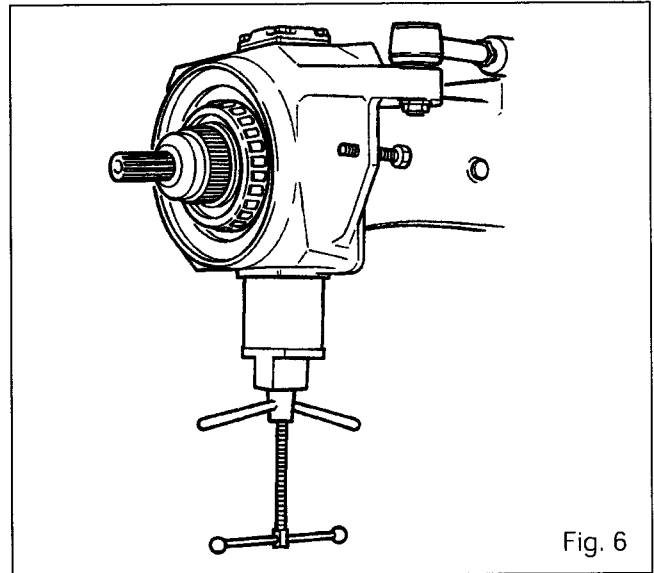

Fig. 6
53. Remove the bolts **(1)**, the cover **(15)** and the cup **(14)**. Extract the swivel pin **(11)** (Fig. 6) using tool MF451B and end fitting MF451B3 (See Part I).
54. Remove the bolts **(1)** and the cover **(2)**. Remove the shims **(3)** and the cup **(4)**. Extract the swivel pin **(7)** as already described for the lower pin (Fig. 6). If necessary, extract the cones **(5)** and **(13)** from the swivel pins.